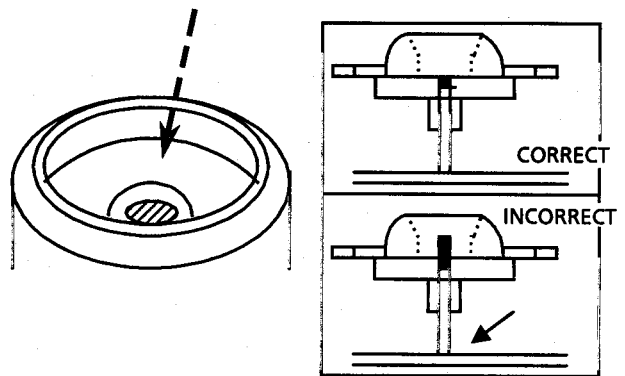

Fig 31
- (32)** Use "LOKTTITE" #460 bonding agent, and apply as little as possible. Take care not to allow any excess bonding agent to get onto the turntable. Be extremely careful not to allow bonding agent to adhere to the motor bearings (the section marked by an allow in fig 31 on the right).